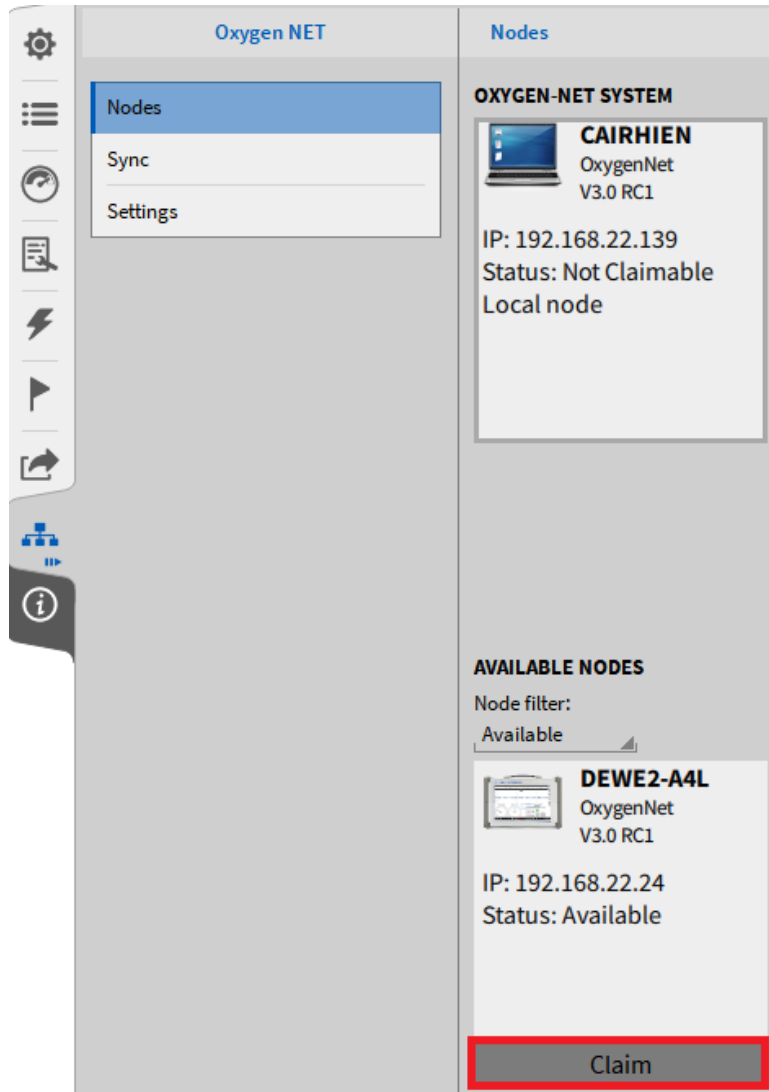

Fig. 15.15: Claiming of measurement devices
- Go to the OXYGEN-NET menu *Nodes* on the Master unit. In the *Available Nodes* section, all measurement devices with OXYGEN-NET enabled are listed. By clicking on the *Claim* button (see Fig. 15.15), the individual device is added to the OXYGEN-NET system as a Slave unit and can be controlled by the Master unit.